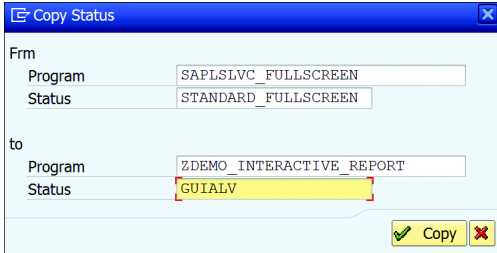

Figure 15.10 Copy Status Window
- In the COPY STATUS dialog box that appears, enter your program name and the SAP GUI status, as shown in Figure 15.10. Click COPY on the current and subsequent windows to copy the status.